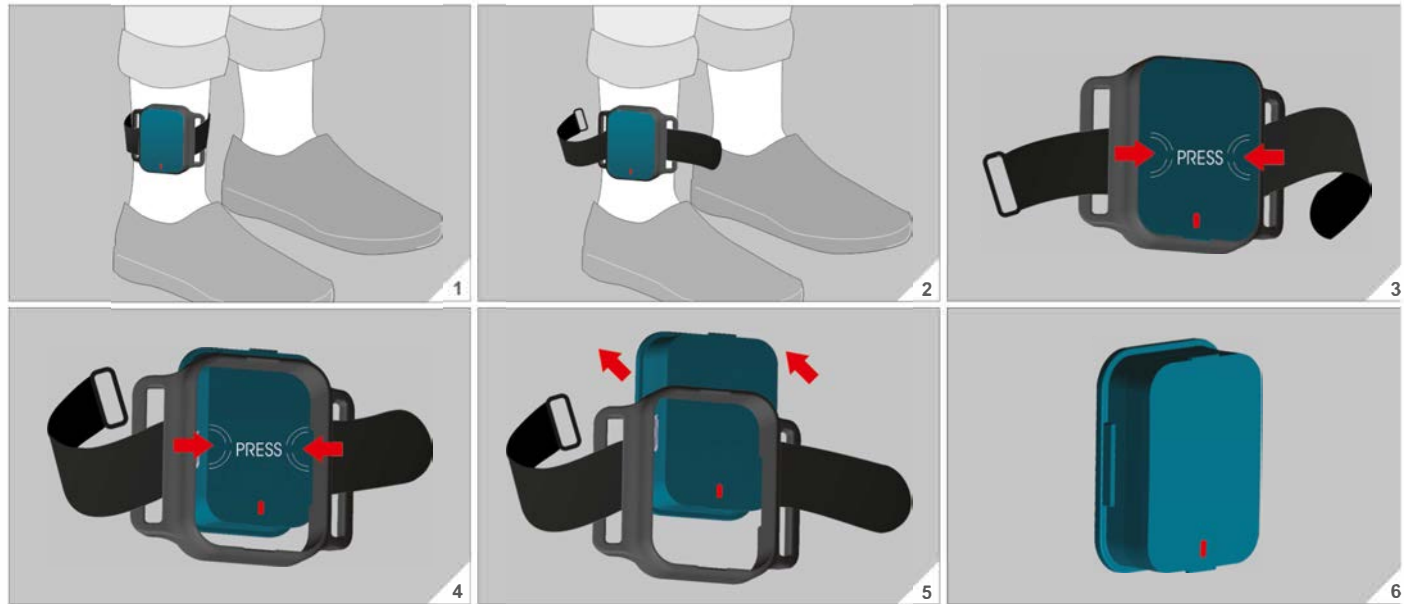

Figure 20. Instructions on removing PDMonitor® Monitoring Devices with strapframe from shanks
- Remove each Monitoring Device from the strapframes, as shown in Figure 20